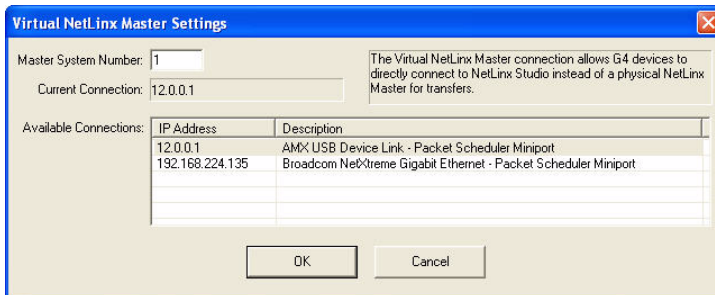

FIG. 108 Virtual NetLinx Master Settings
6. Click the **Edit Settings** button on the *Communications Settings* dialog to open the *Virtual NetLinx Master Settings* dialog (FIG. 108).